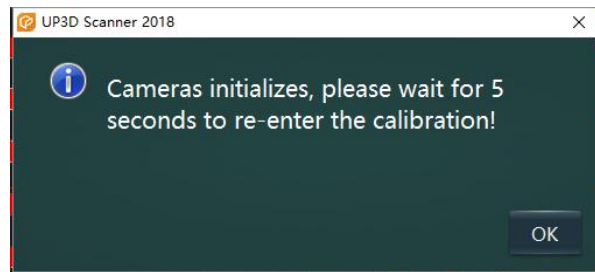

Figure 1-7
(2) When starting calibration for the first time, if the software detects that the camera needs to initialize, then a dialog box (figure 1-7) will pop up and click the "ok" button. The software will automatically adjust the camera and enter the calibration interface again